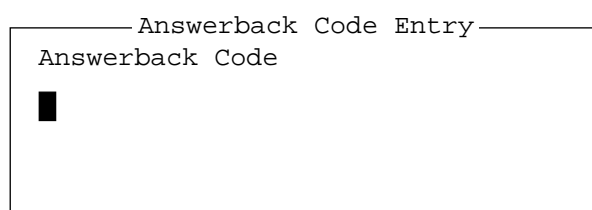

Figure 3-1 Answerback code entry screen
1. Press function key [F5] and then the [5] key. The display should look something like Figure 3-1.